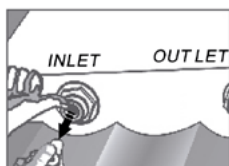

FIGURE 5
4. Push the plastic ferrule and pull out the plastic pic from the ferrule ( Fig.5)